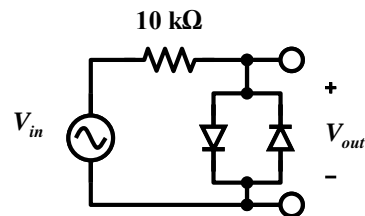

Figure 1-16 – A simple bipolar limiter
Thus far we have been working with DC signals, let’s switch gears now to AC signals. Consider the circuit in Figure 1-16 with a sinusoidal input voltage. If the signal exceeds the diode forward voltage drop, the diodes will conduct and clamp the output to  $\pm 0.7V$ . This is sometimes called a “clipper” circuit because the tops of the sinusoidal waveforms (signals exceeding 0.7V in magnitude) appear to be clipped off. It is also called a “limiter” for obvious reasons. This is useful in some applications, for example at the input of a sensitive high-gain amplifiers where the input signal needs to be limited to prevent overdriving the amplifier.
- Construct the circuit in Figure 1-16 using the 1N4148s.